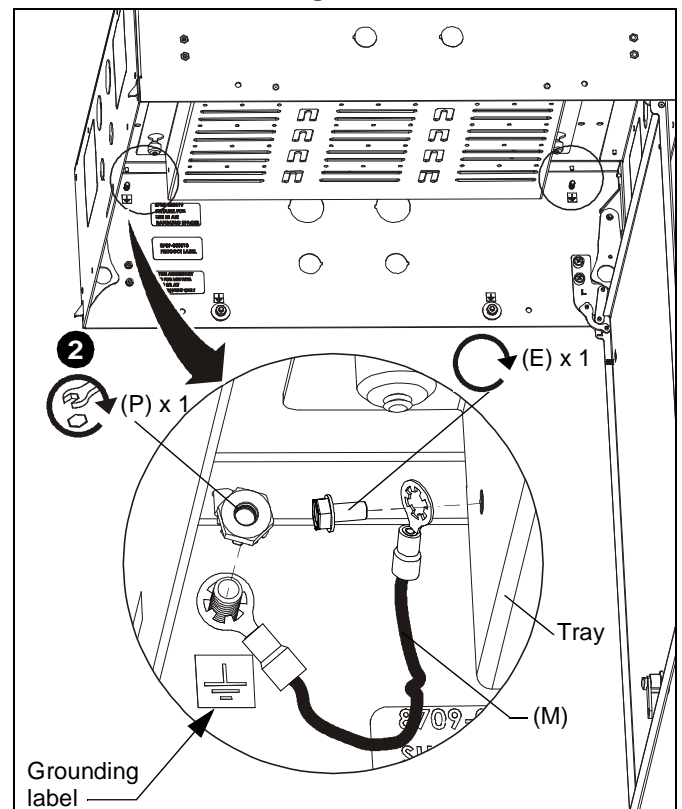

Figure 13
2. The other grounding wire (M) should be attached between the removable tray and the CMS490 box using one 10-32 grounding screw (E) in desired location on removable tray, and one 10-32 grounding nut (P). (See Figure 13)